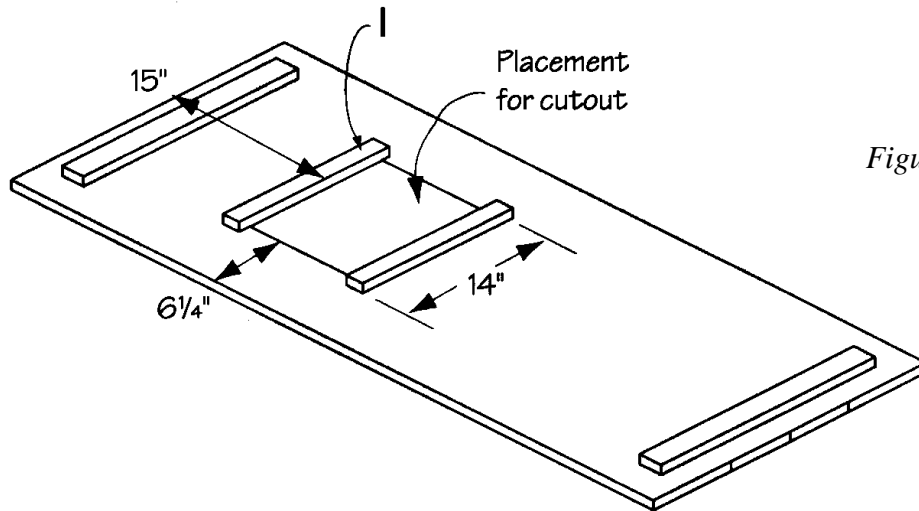

Figure 6
1. The next step is to cut a hole in the rectangular top to accommodate the potting bin. We used a heavy-duty plastic dishpan for our bin. With the rectangular top upside down, and the edge supports (H) showing, turn the dishpan upside down in the position shown in Figure 6. Holding the dishpan in that position, trace around it with a pencil to transfer the outline to the wood surface. Remove the dishpan. Draw an inner outline about 1/2" smaller, which will be the true cutting line. This will allow the dishpan to drop through the hole, with the dishpan lip resting on the wood. Make certain that all four sides of your hole are parallel to the four sides of the rectangular top. When you are satisfied that the position and the size of the hole are correct, cut out the center section to accommodate the dishpan.
- To reinforce the top around the edge of the hole, cut two reinforcements (I) from 1 x 2 pine, each measuring 14" long.
- Place the two reinforcements (I) flush with the long edges of the hole, with an equal length of the reinforcement (I) extending past the hole, as shown in *Figure 6*. Screw through the reinforcements (I) into the rectangular top, using six 1-1/4"-long screws on each reinforcement (I).